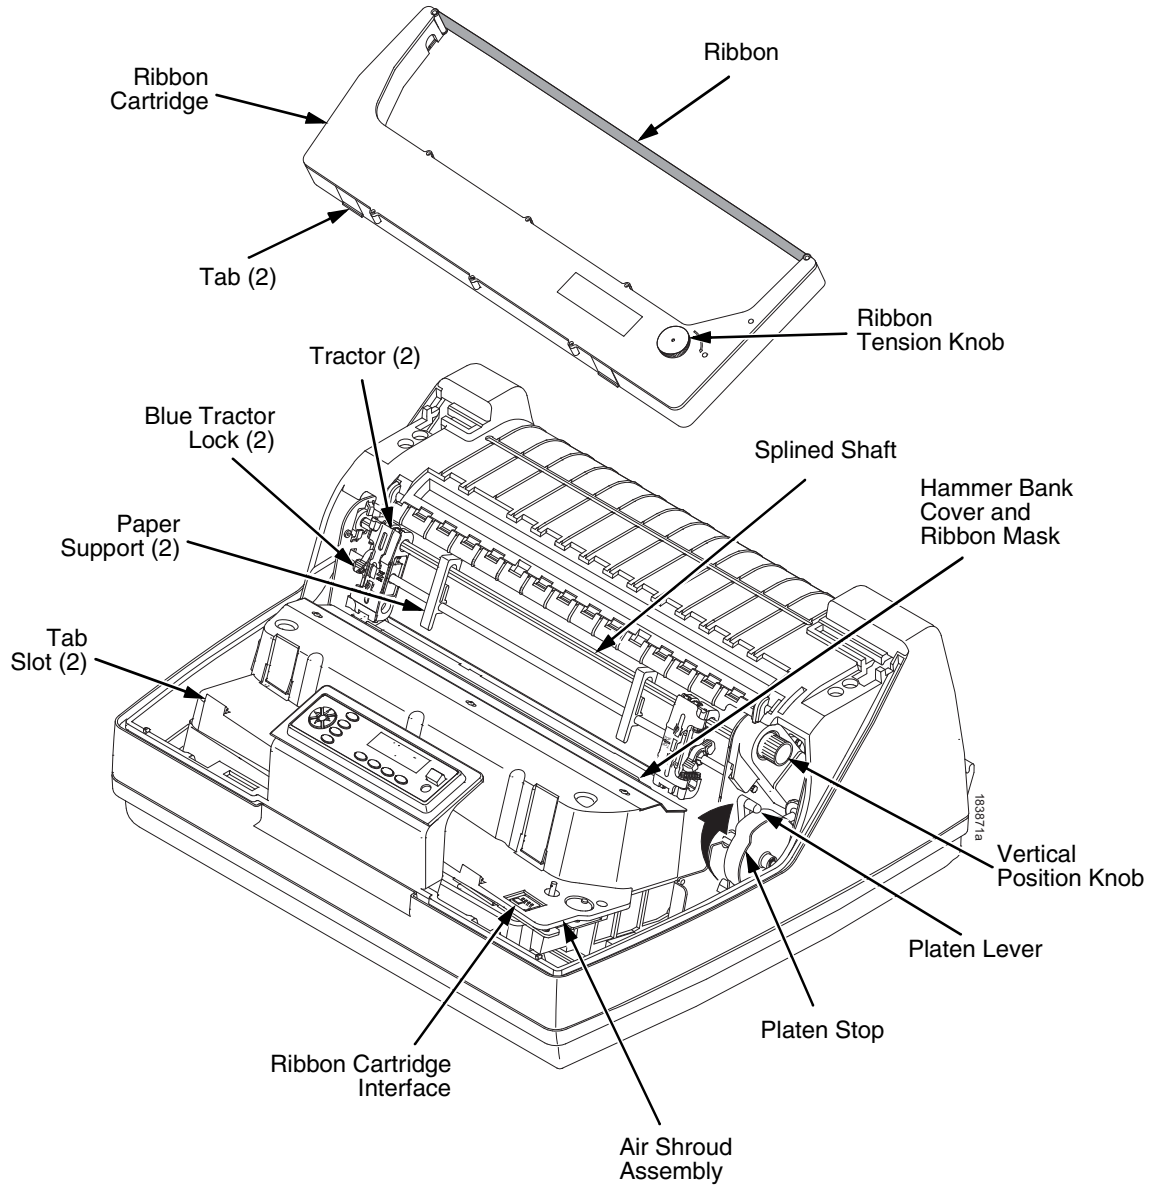

Figure 4. Printer Component Locations
1. Raise the printer cover. Raise the platen lever as far as it will go. (See Figure 4 on page 21 for the location of the lever.)
6. Pull the new paper above and behind the ribbon mask, but in front of the existing paper. See Figure 4 on page 21 for the ribbon mask location. If necessary, gently press the existing paper back.